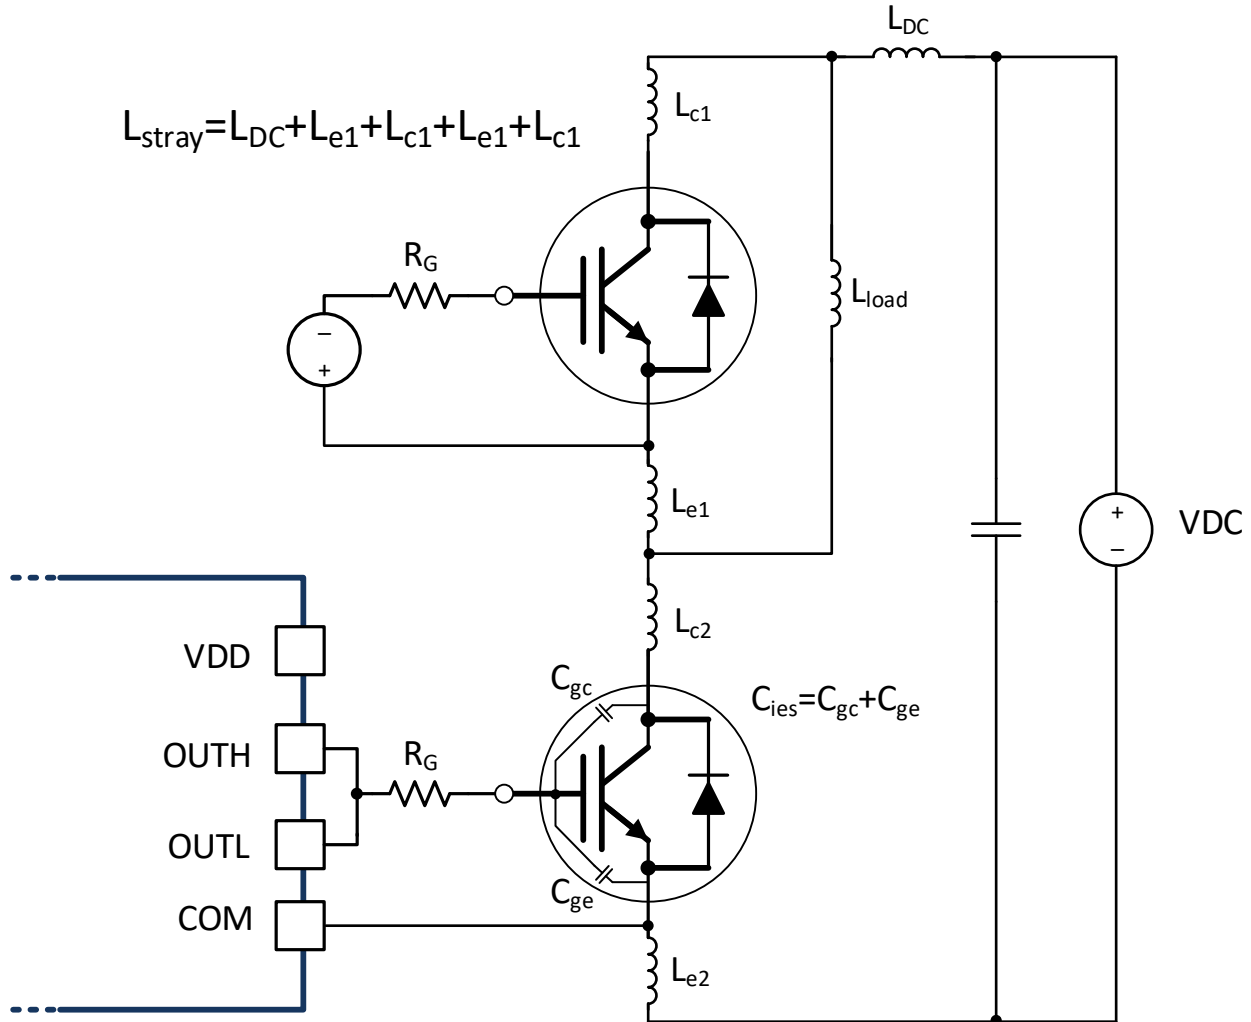

图 9-6. Stray Parasitic Inductance of IGBTs in a Half-Bridge Configuration
- $L_{\text{stray}}$  is the stray inductance in the power switching loop, as shown in 图 9-6.